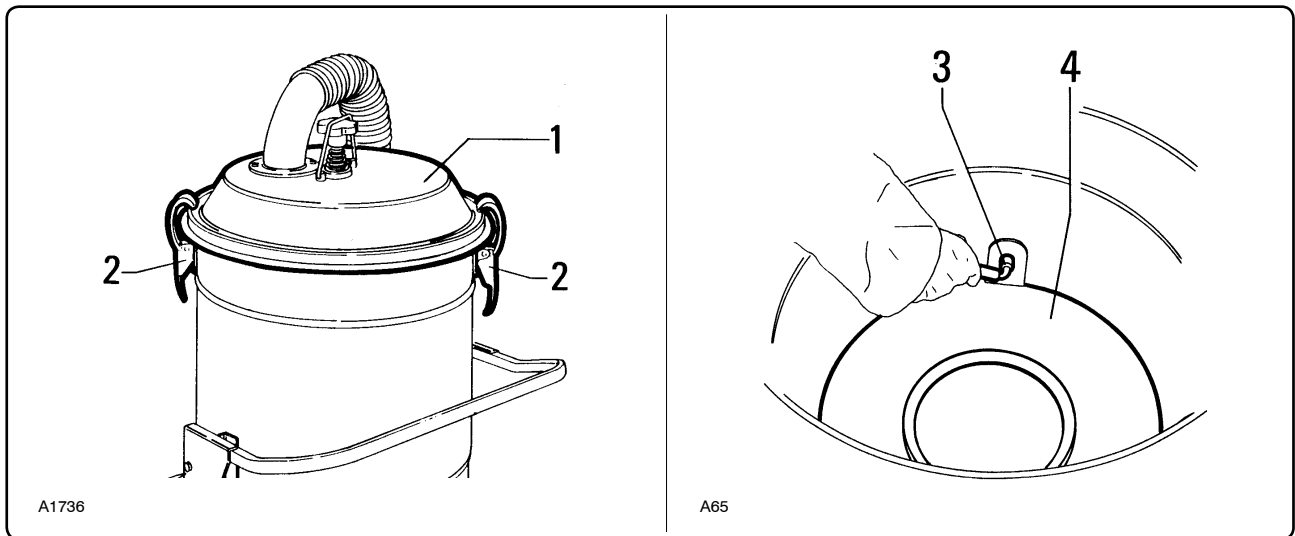

Fig. 7.5.10
7.5.8 - Cleaning or replacing the separator fig. 7.5.10